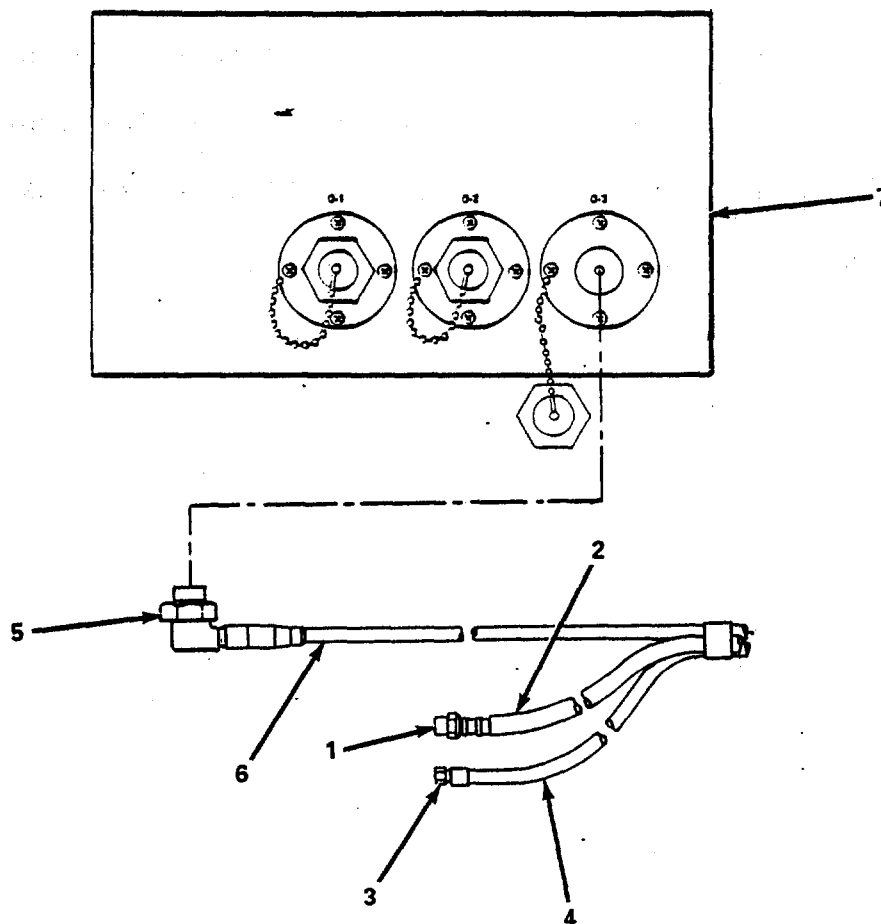

Figure 4-36. Surface End Umbilical, Replace.
- (2) Surface end. (figure 4-36).
- (a) Loosen connector nut (1) and disconnect air hose (2) from air supply.
- (b) Loosen connector nut (3) and disconnect pneumofathometer hose (4) from gage fitting.
- (c) Loosen connector nut (5) and disconnect communications cable (6) from communications box (7).
- (d) Connect communications cable (6) to communications box (7) and tighten connector nut (5).
- (e) Connect pneumofathometer hose (4) to gage fitting and tighten connector nut (3).
- (f) Connect air hose (2) to air supply and tighten connector nut (1).